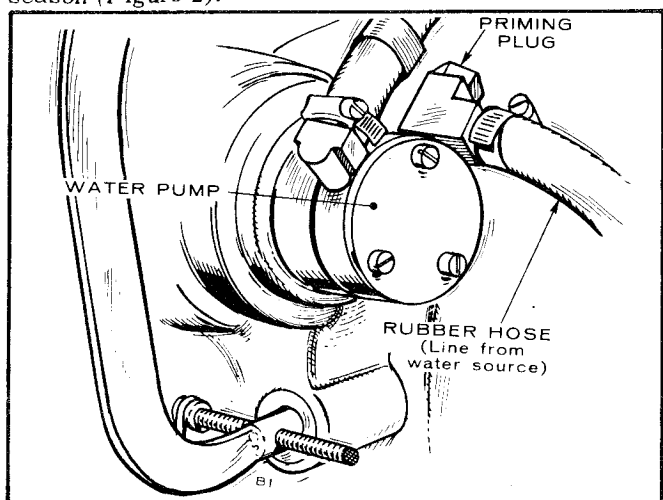

FIGURE 2. PRIMING WATER PUMP
**CAUTION** *The neoprene impeller pump should never be run dry and should be primed in the sets initial state and at the beginning of each season (Figure 2).*